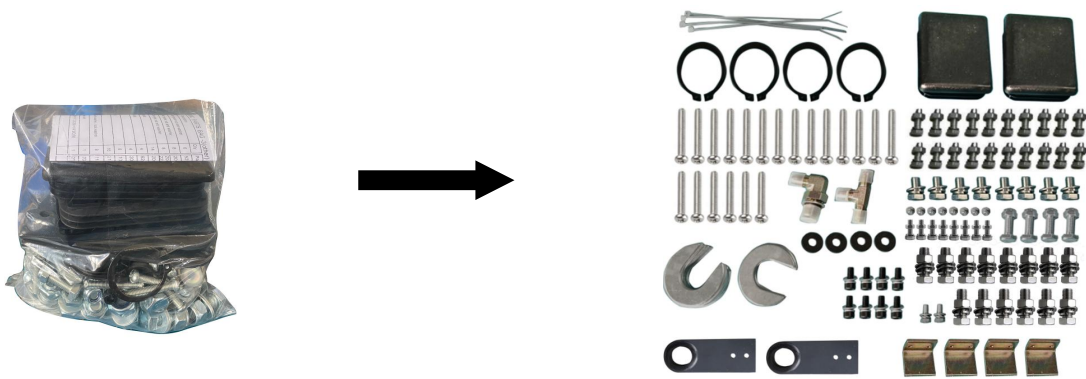

Fig. 12
6. Open the bag 2 of parts and check the parts according to parts bag list (See Fig. 12).